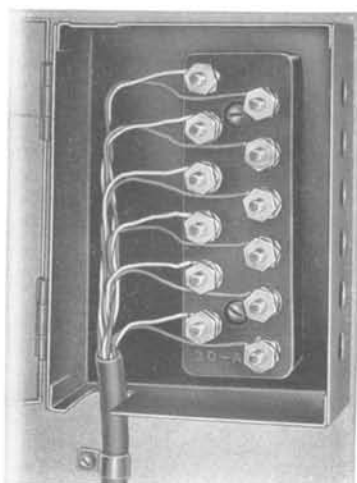

FIG. 8—WIRING OF HS-6 CABLE TERMINAL BOX
**4.08** The proper knockout should be removed from the HS-6 cable terminal box before the cable is placed and terminated. Fig. 8 shows the termination of cable.